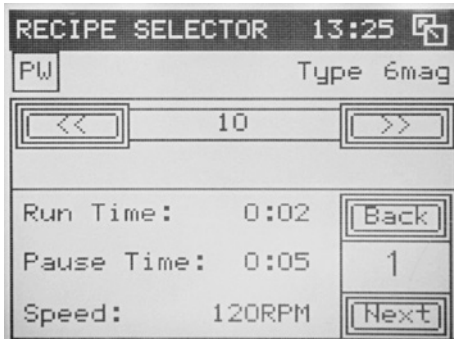

Figure 29 Recipe Selector screen
- On the Automatic Mode screen, press **Select**. The Recipe Selector screen will open (Fig. 29).